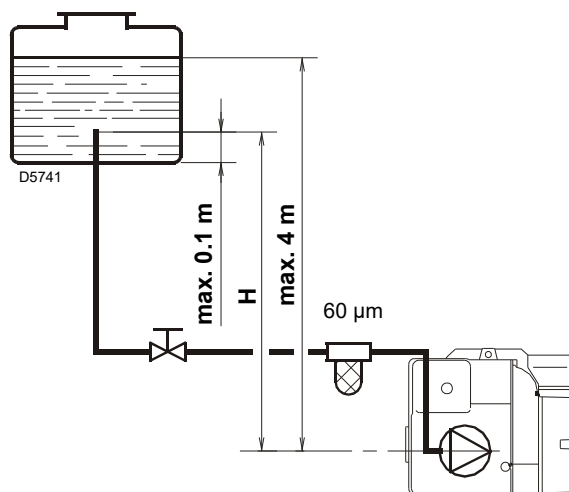
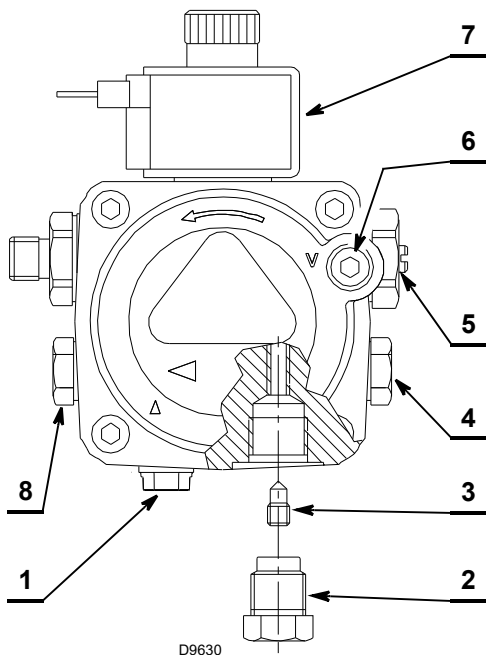

Fig. 12
Fig. 11
- The pump is designed to allow working with one pipe. In order to obtain two pipes working it is necessary to unscrew the return plug 2)(Fig. 11), screw the by-pass screw 3),supplied as burner equipment and then screw the return hose.
On the system in Fig. 12 it is sufficient to loosen the suction gauge connection 6)(Fig. 11) and wait until oil flows out.
Key (Fig. 11)